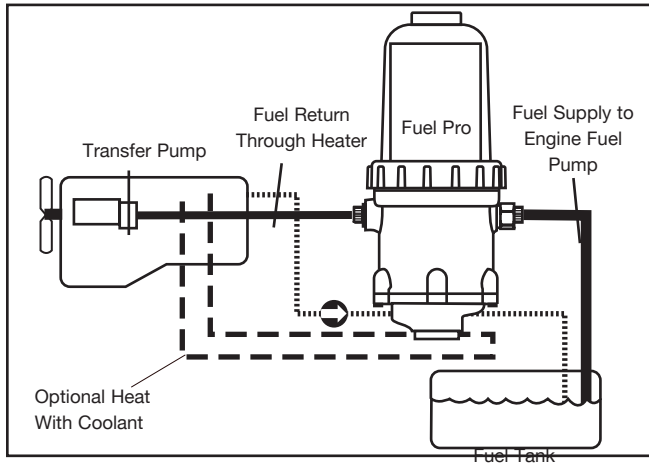

Figure 1 - Fuel Pro Connections
Step 5 - Route the fuel supply line from the fuel tank to the Fuel Pro inlet (Figure 1). Route a fuel line from the Fuel Pro outlet to the fuel pump inlet.